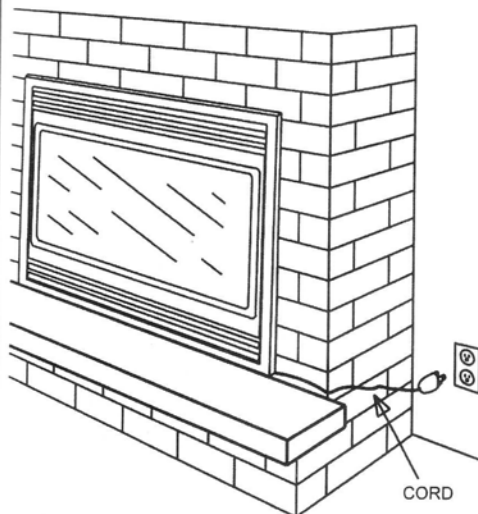

FIGURE 2
4. The power cord can run along the front of the hearth to an outlet near the fireplace. (FIGURE 2)